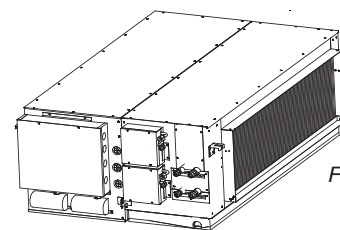

Fig.4-20
- 1 The indoor unit show as Fig.4-20